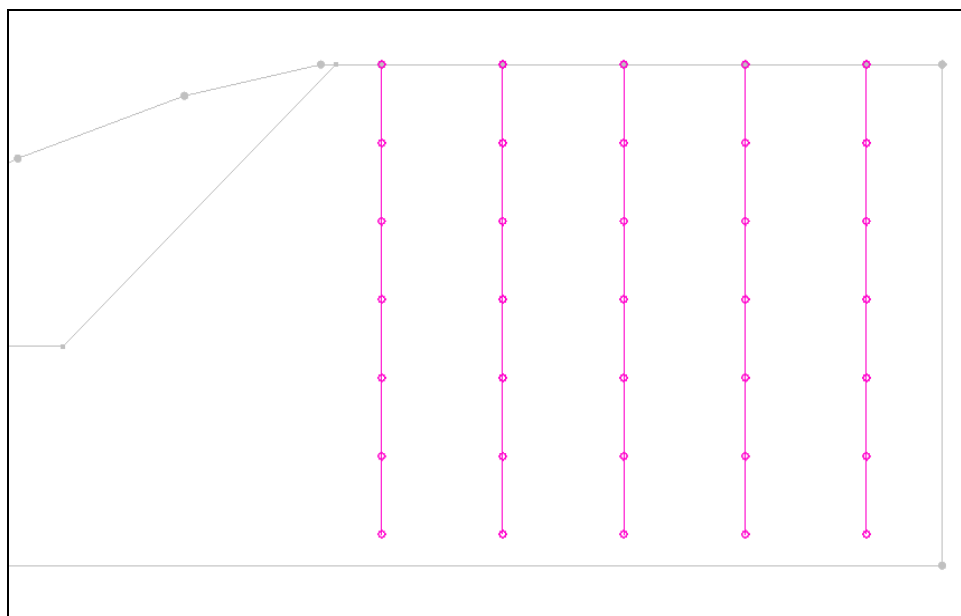

Figure 5. The piers represented as reinforcement lines.
4. Using Figure 5 (below) as a guide, click on the points to connect them with arcs to create the slope.
At this point you should see something like Figure 5 below.